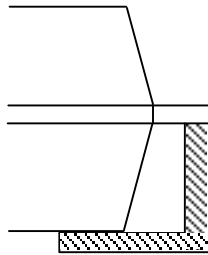

figure 1
- Soldering must be performed in the shaded area as shown in Figure 1 below.